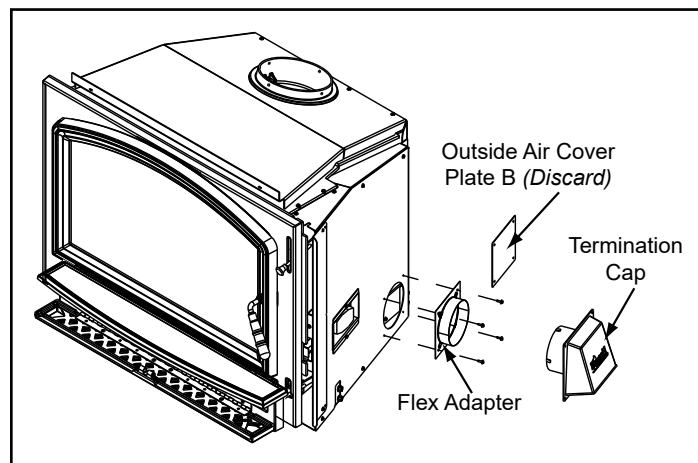

Figure 10
5. Remove the outside air cover plate B on outer can and discard (Figure 10).